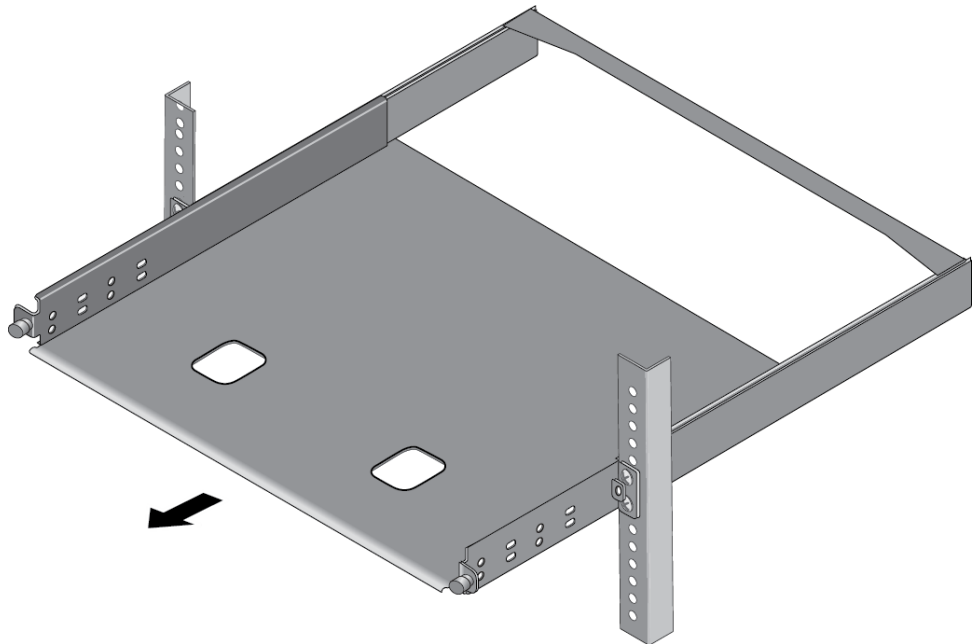

Figure 26. Sliding Out the Tray from the AT-RKMT-J15
3. Slide out the bracket tray. Refer to Figure 26.